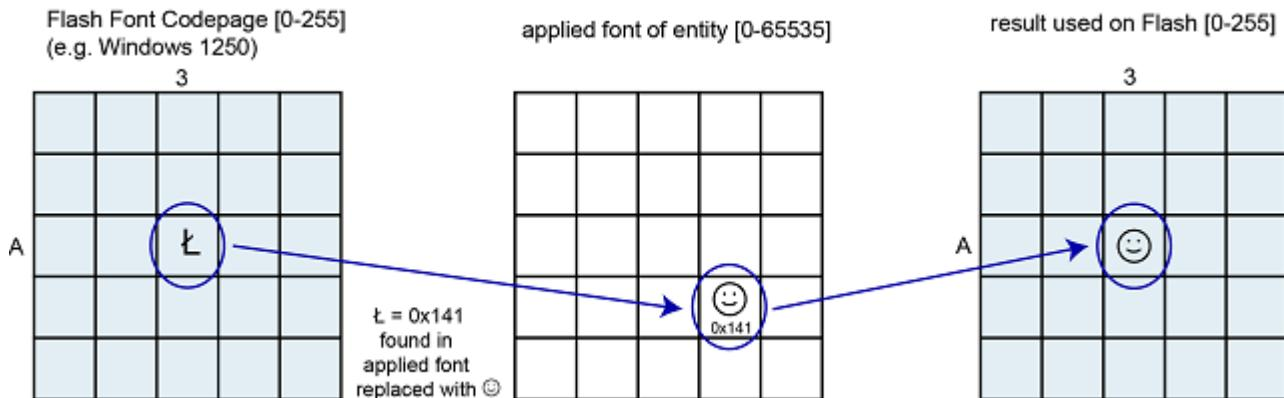

Figure 68: Example for successfully mapping Unicode character 0x141 from Windows-1250 Flash Font Codepage to a custom designed character
If a Unicode number of the Flash Font Codepage is found in the applied font of the entity, it is put at the corresponding position in the resulting font on flash. This does not mean that the vectors of the characters need to be the one of the Unicode number. You can easily modify the character in your applied font of the entity using for example the font converter (see example in figure 68: ASCII position 0xA3 in the Flash Font Codepage (Windows-1250) is occupied by Unicode character 0x141 (L). This Unicode character 0x141 is found in the applied font. But in the applied font, the content of position 0x141 was exchanged with a smiley in the font of the entity. Because the smiley is located at 0x141, it is recognized as the correct character and is put at position 0xA3 in the resulting font in flash.).